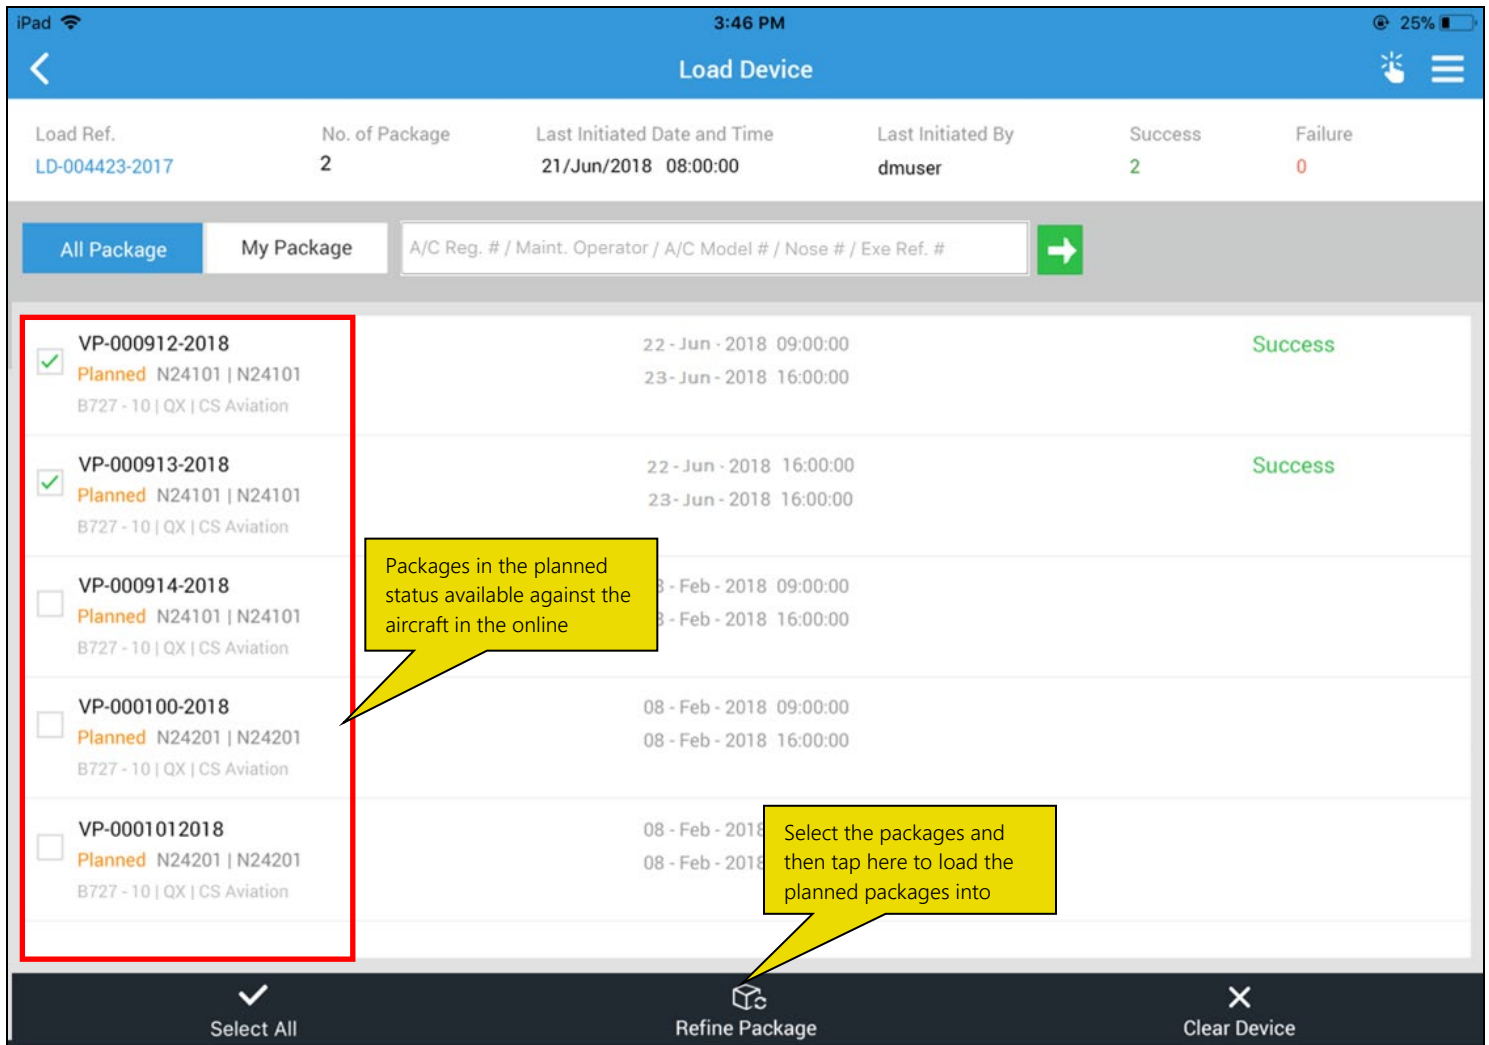

Figure 4.7 Loading data to a device
- On tap of **Load Package** button, the **Load Device** page appears with two tabs: **All Package** and **My Package**. The first and the default tab **All Package** displays the list of work packages which were earlier created / planned in the online application against all the loaded aircraft. See Figure 4.7.